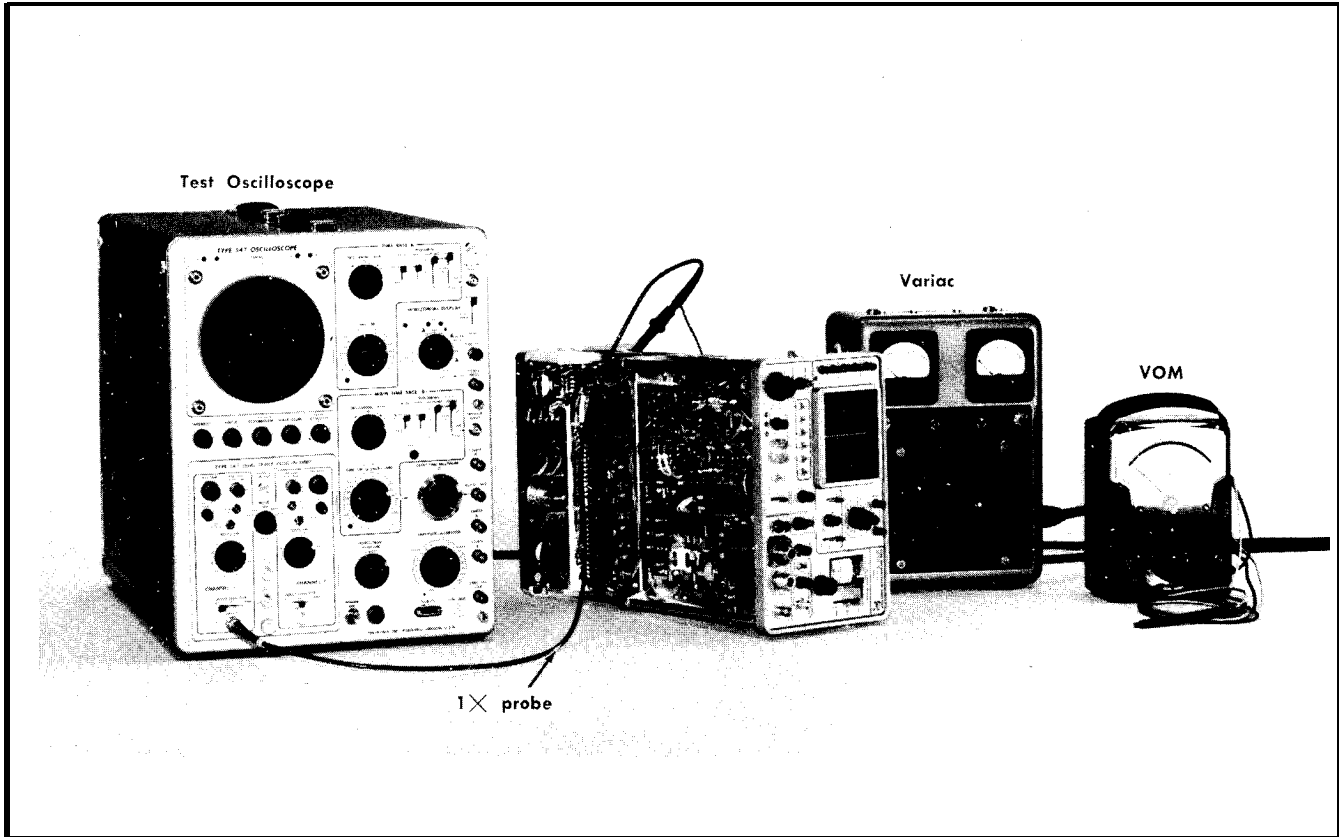

Fig. 6-4. Equipment setup for adjusting and checking the low and high voltage power supplies. Steps 1 through 6.
a. Equipment setup is shown in Fig. 6-4.